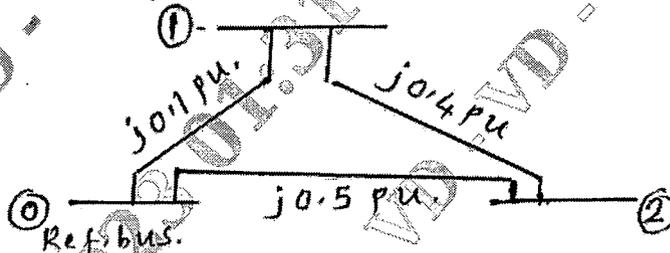

Fig.Q.10(a)
- 10 a. Obtain  $Z_{bus}$  by building algorithm for the system shown in Fig.Q.10(a). All values are in p.u. (impedance). Take bus 0 as reference bus. Add the elements in the order of ref. bus to bus1, ref. bus to bus2 and finally bus 1 to bus 2. (10 Marks)